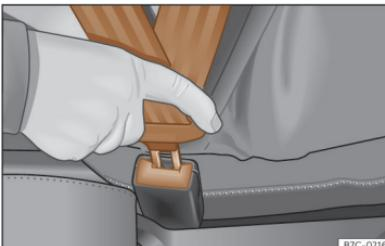

Fig. 20 Insert the latch plate of the seat belt into the buckle.
- Insert the buckle plate in the buckle of the correct seat >>> **Fig. 20**.